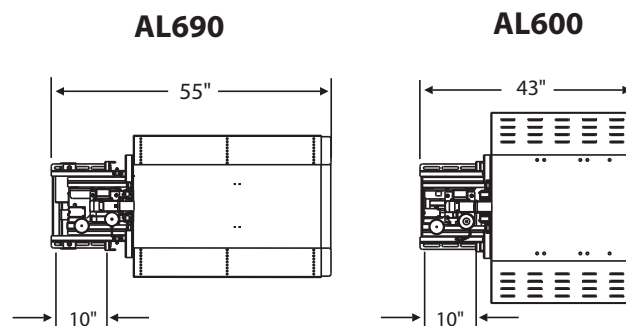

Figure 10-1
2. Remove Seating & Determine Lift Placement. Remove seating. For AL600 (page 14) this is usually the third row; for AL690, (page 22), second row. Determine mounting range by climbing inside cargo area and closing access door. Measure from inside the door threshold to determine the lift's fully-stowed placement. For the AL600, measure to 43"; for AL690, measure to 55." [Figure 10-1]